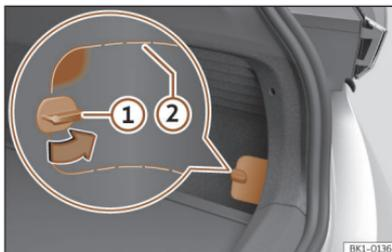

Fig. 72 On the lower right-hand side of the luggage compartment trim: cover with cutting lines.
- Turn the cover lock through 90° >>> **Fig. 72** ①.
- Press the surface over the lock inwards >>> **Fig. 72** (marked zone).
- Insert your hand through the opening and pull the cover off. If necessary, apply a suitable object along the cutting lines >>> **Fig. 72** ②.